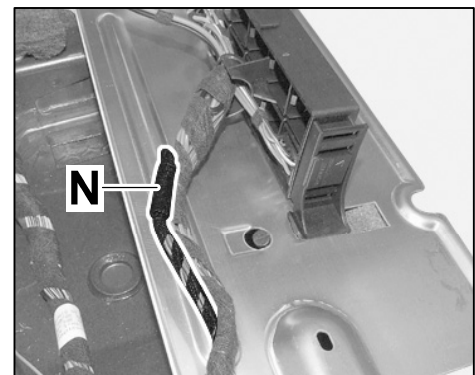

Figure 36
8.5.1 Expose splice 090 (terminal 87 DME) ⇒ *Figure 36 -N-* on fuse carrier 2.